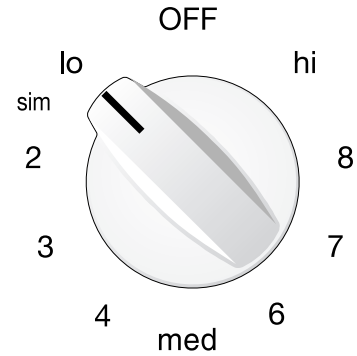

Fig. 1
2. Push in and turn the surface control knob in either direction to the desired setting. Start most surface cooking on a higher setting and then turn to a lower setting to finish. The surface control knobs do not have to be set exactly on a particular spot. Use the panel graphics provided as a guide and adjust the control knob as needed (Fig. 1). Each surface element provides a constant amount of heat at each setting. For more information see the **Suggested surface element settings table** (Fig. 2).